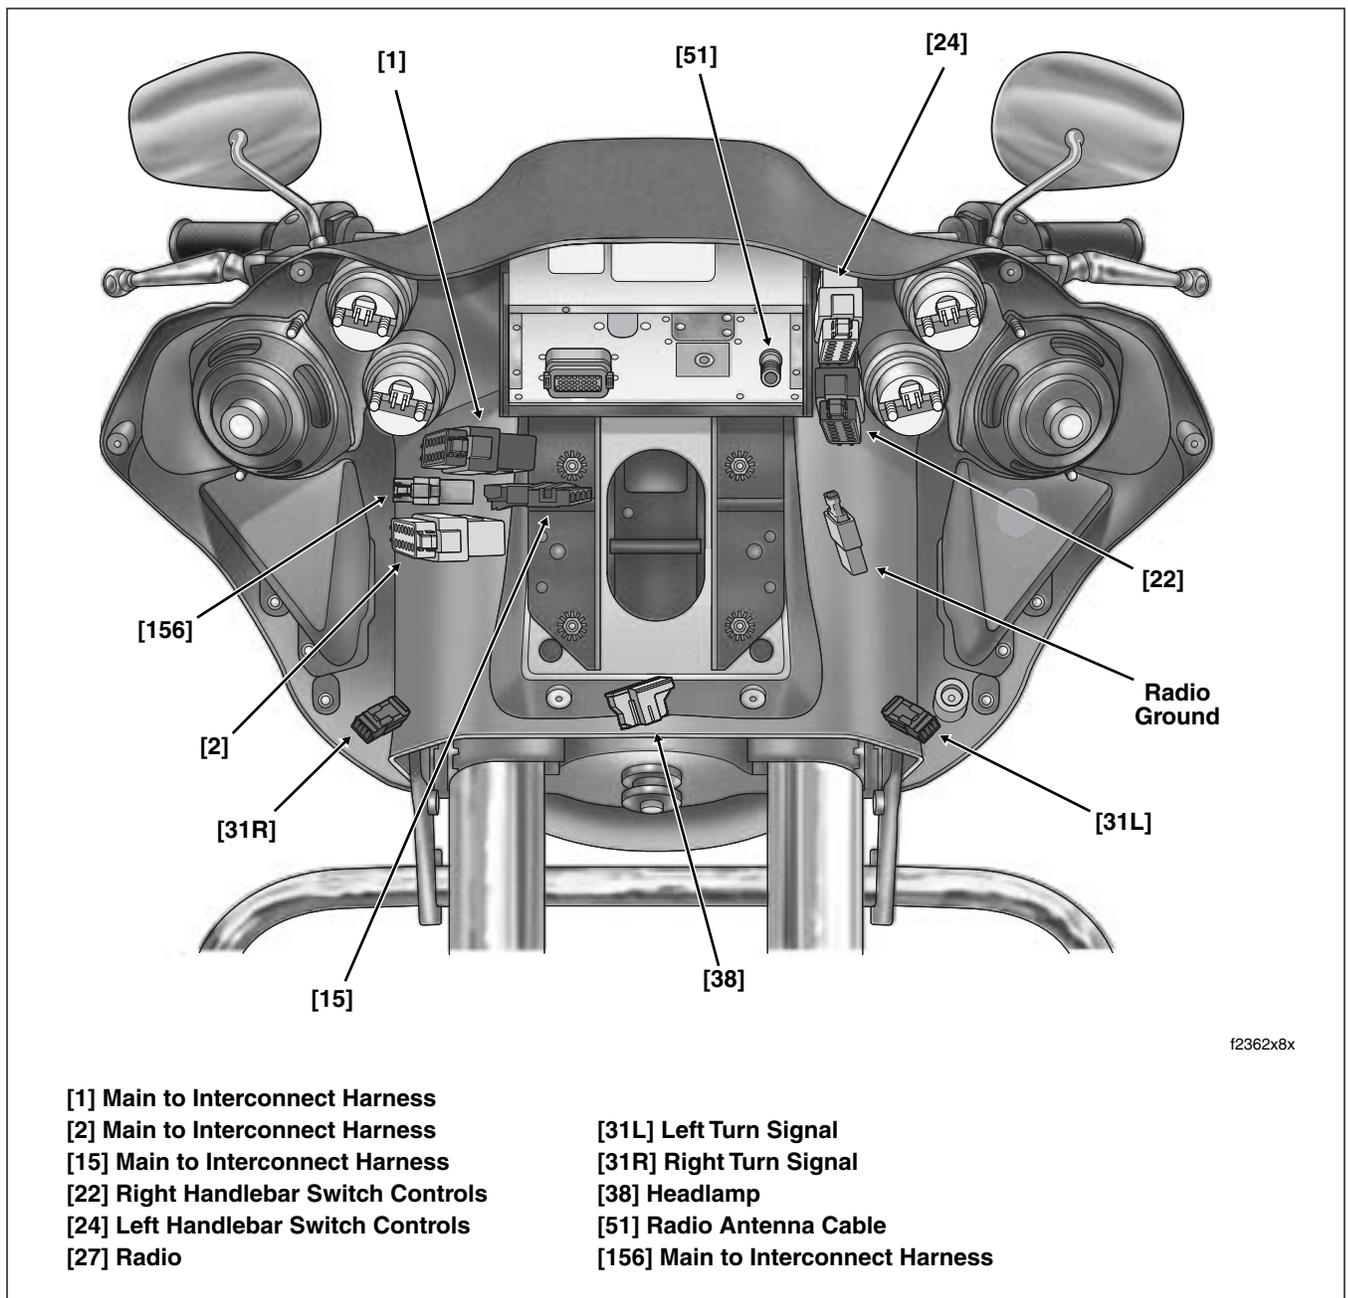

Figure 2-179. Inner Fairing Connectors (FLTR)
7. See Figure 2-179. Disconnect instrument nacelle switches from interconnect harness as follows:
2. See Figure 2-179. Connect instrument nacelle switches to interconnect harness as follows:
4. See Figure 2-179. Connect left side switch to instrument nacelle switch harness as follows:
4. See Figure 2-179. Disconnect main harness from interconnect harness as follows:
5. See Figure 2-179. Disconnect radio antenna cable and radio ground wire. Proceed as follows:
6. See Figure 2-179. Disconnect handlebar switch controls from interconnect harness. Proceed as follows:
16. See Figure 2-179. Connect handlebar switch controls to interconnect harness. Proceed as follows:
17. See Figure 2-179. Connect main harness to interconnect harness as follows:
18. See Figure 2-179. Connect radio antenna cable and radio ground wire. Proceed as follows:
19. Orient connectors as shown in Figure 2-179. Install two **new** cable straps outboard of radio bracket hooks to secure wire bundles and conduit to convoluted tubing of interconnect harness. Cut any excess cable strap material.